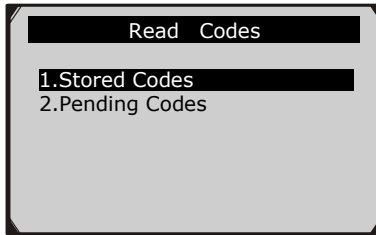

Figure 6.4
- 2) Use the **UP/DOWN** scroll button to select **Stored Codes** or **Pending Codes** from the **Read Codes** menu and press the **OK** button. (Figure 6.4)